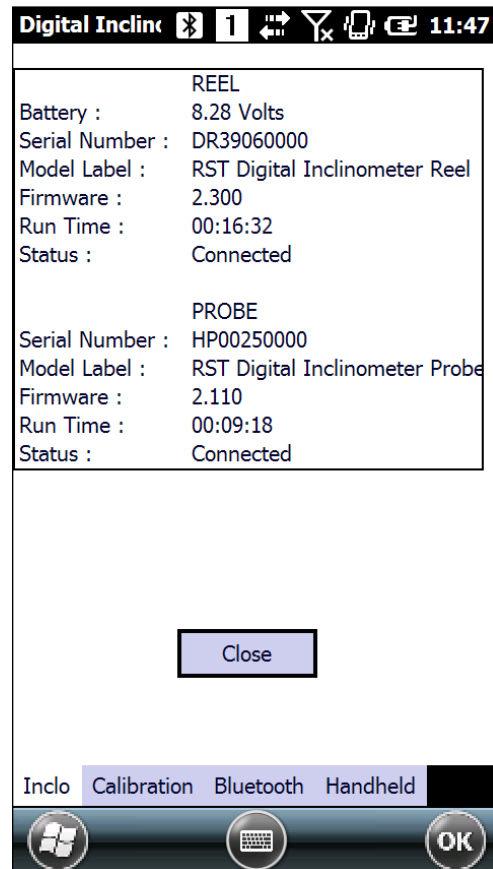

Figure 4: Connection Information Screen
- The status of the connection can be monitored at the bottom of the Main Menu screen. To verify that the wireless connection has been made, press the *Status* button. A screen will appear showing the connections (see Figure 4).